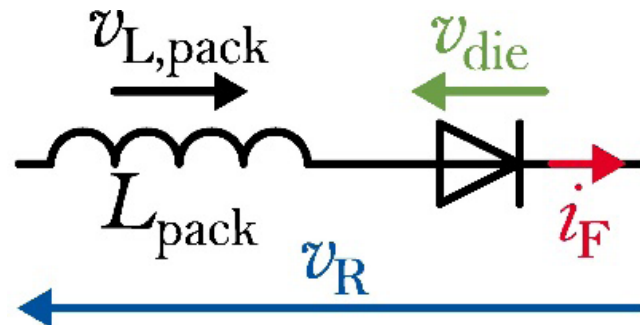

Figure 3: Diode parameter definition.
Using the definitions in figure 3, the internal die voltage $v_{die}(t)$ can be reconstructed over time. This is based on the measured package voltage $v_R(t)$, the known package inductance and the current through the diode, as described in equation (3) [4].